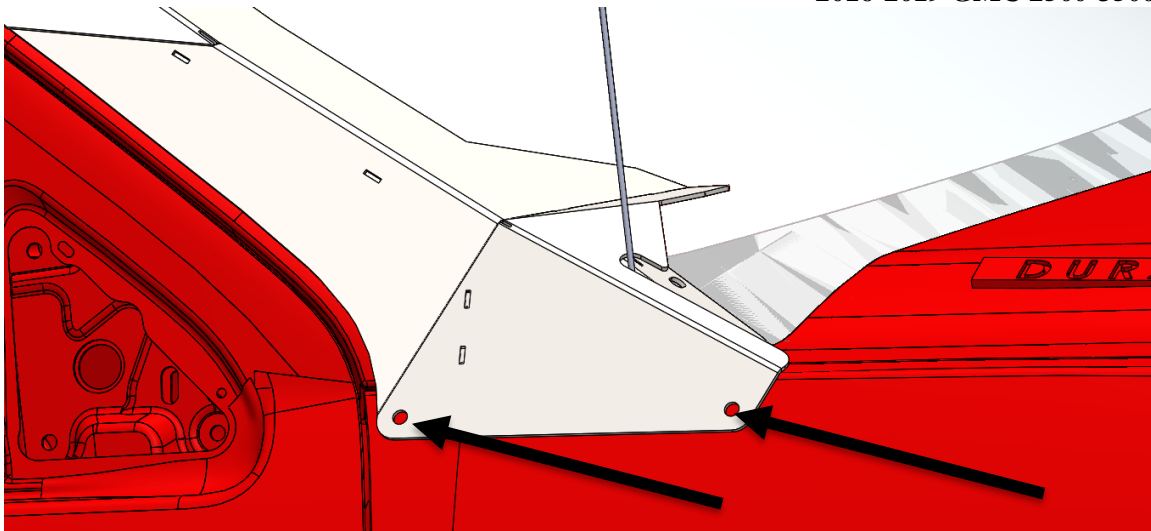

Fig 13
- d. Mark the two Rivet nut hole locations as indicated in **Fig 13** by the arrows and on both driver and passenger arms.